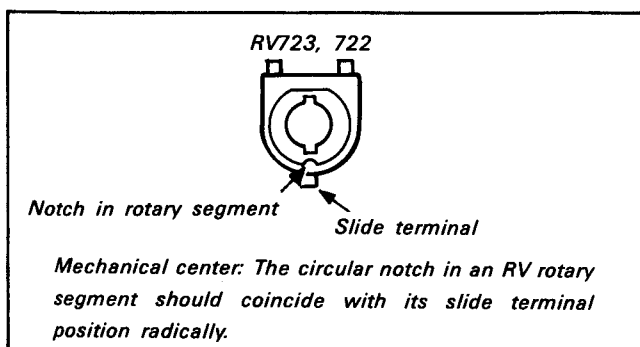

Fig. 7-41.
- 1) Set RV723 (B-Y MIX) and RV722 (R-Y MIX) on ME-4 board at its mechanical center. (See Fig. 7-41)